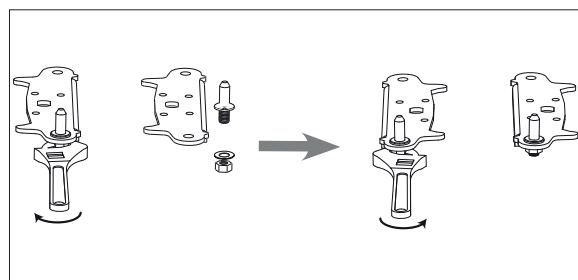

Fig. 13
- ▶ Use a 10 mm wrench to remove the lower hinge pin (Fig. 13) and screw the pin back into the hole on the opposite side.